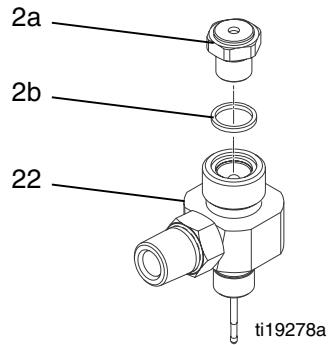

FIG. 13
- Place the gasket (2b) on the valve seat (2a). Grease the threads of the valve seat (2a) then install into the fluid housing (22). Torque to 20-25 ft-lb (27-34 N•m). See FIG. 13.